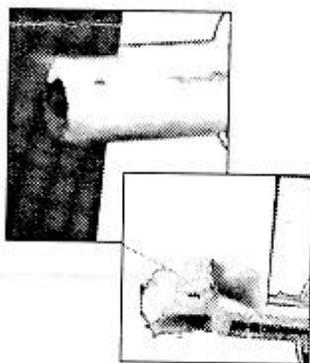

Figure C-3 Removing foam plastic and adhesives
- 5) Remove the foam plastic and the adhesives with the safety knife. Be careful not to damage the inner conductor, as shown in Figure C-3.